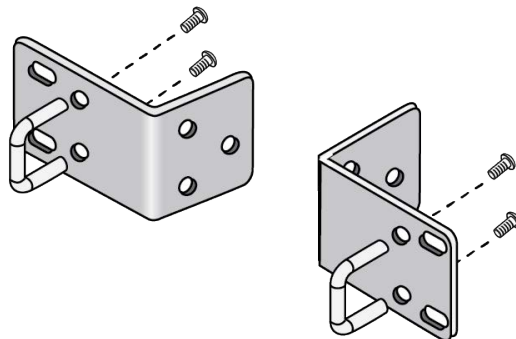

Figure 36. Attaching the Handles to the RKMT-J13 Brackets
3. Attach the handles to the RKMT-J13 brackets with the four 3x6mm screws included in the kit. Attaching the handles is optional. Refer to Figure 36.